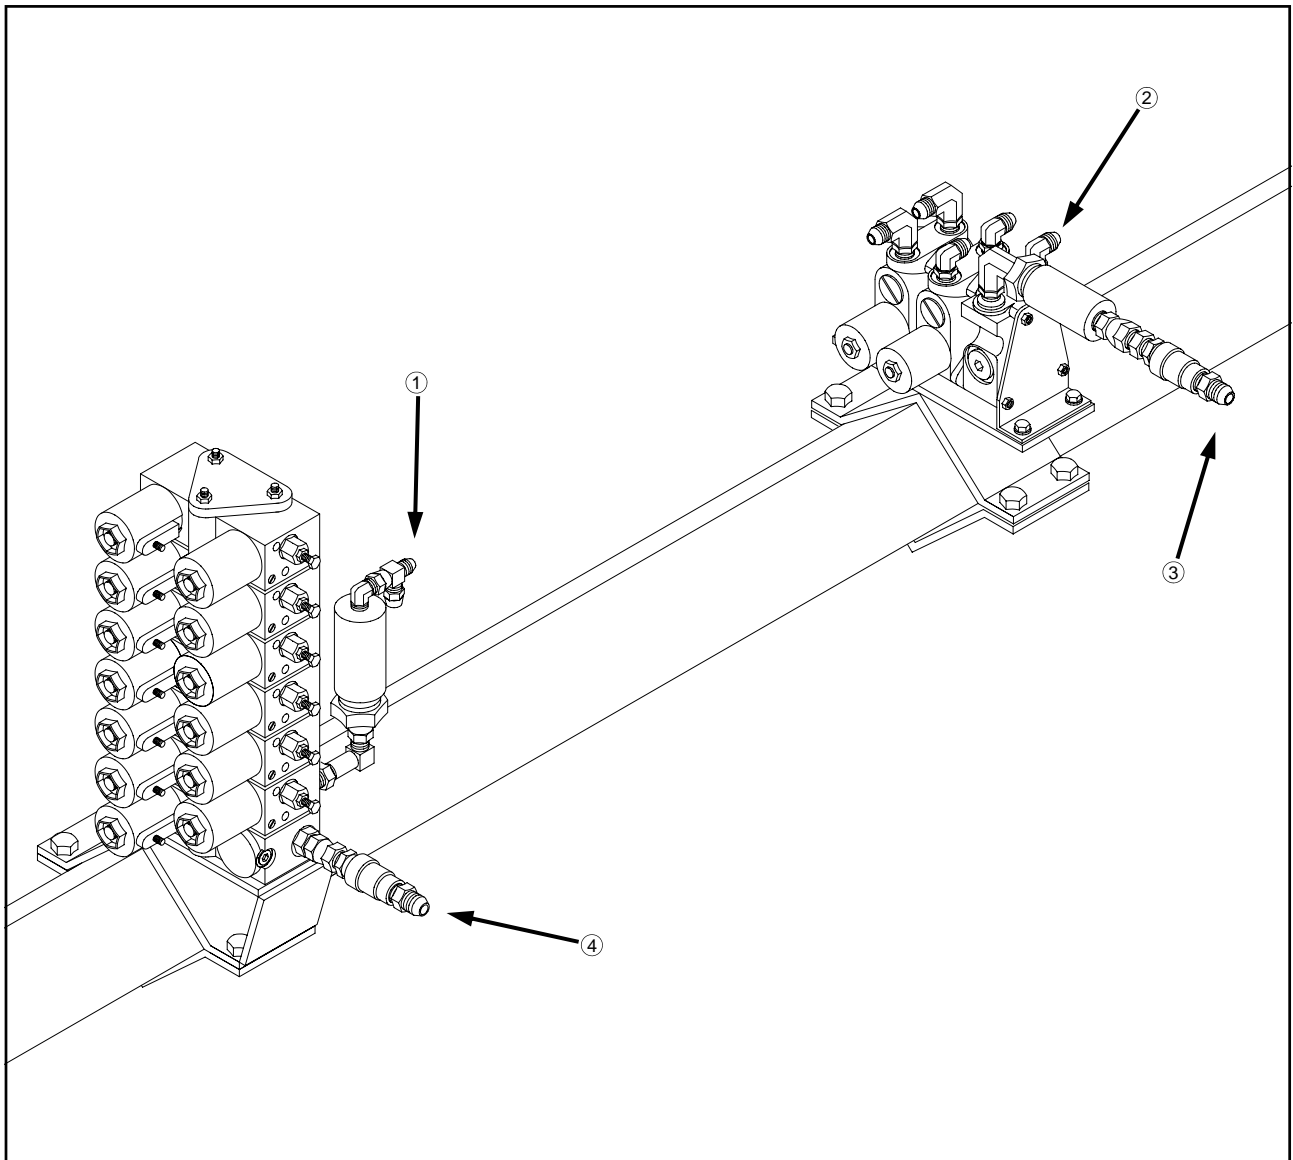

FIG 3.12
Connect the hydraulic supply quick-couple to the filtered connection on the outrigger fold stack valve (fig. 3.12, item 3). With the supplied hardware (refer to 2101 SPRAYER/DETASSELER Parts Manual), connect the outrigger fold stack valve (fig.
3.12, item 2) to the lift arm stack valve filtered connection (fig. 3.12, item 1). Connect the hydraulic return quick-couple to the lift arm stack valve (fig. 3.12, item 4).